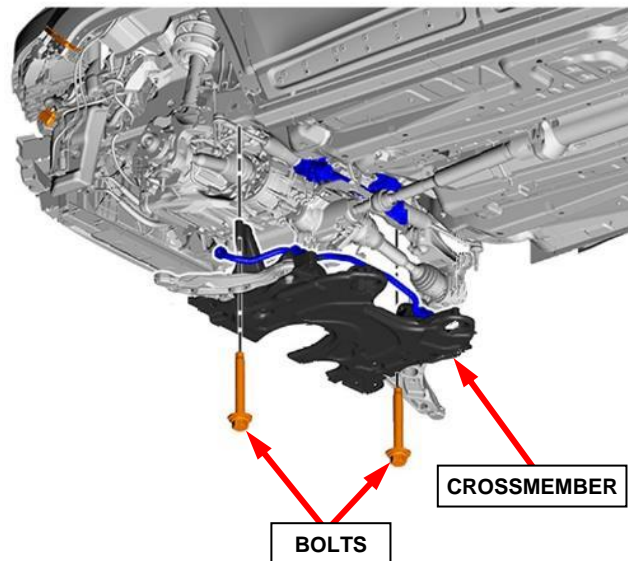

Figure 84 – Crossmember Upper Bolts
61. **FWD only:** Remove the two upper front tower bolts securing the suspension crossmember to the frame rails (Figure 84).